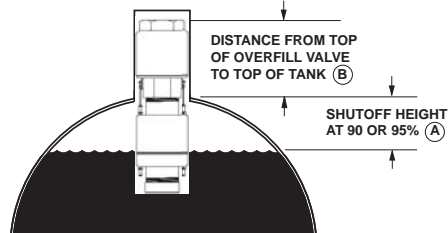
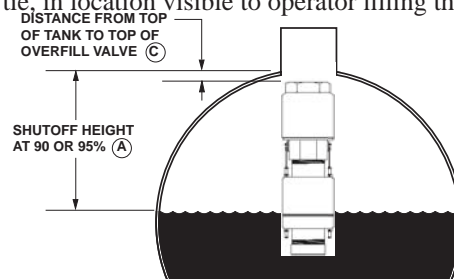

FIGURE 2
FIGURE 3
2. Determine the SHUTOFF HEIGHT at 90 or 95% full. (See Fig. 2 or Fig. 3 below & Mfg. tank ullage chart).
3. If your SHUTOFF HEIGHT is less than 13" for use in gasoline or diesel fuel, then; YOU MUST INSTALL THE OVERFILL DEVICE ON A RISER PIPE using Table 2 and Fig. 2 to determine THE DISTANCE FROM THE TOP OF THE OVERFILL VALVE TO THE TOP OF THE TANK .
4. If your SHUTOFF HEIGHT is 13" or more for use in gasoline or diesel fuel, then use Table 3 and Fig. 3 to determine THE DISTANCE FROM THE TOP OF THE TANK TO THE TOP OF THE OVERFILL VALVE .